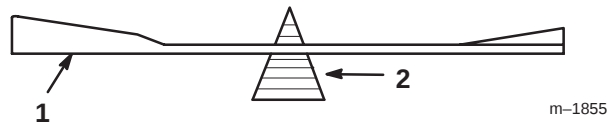
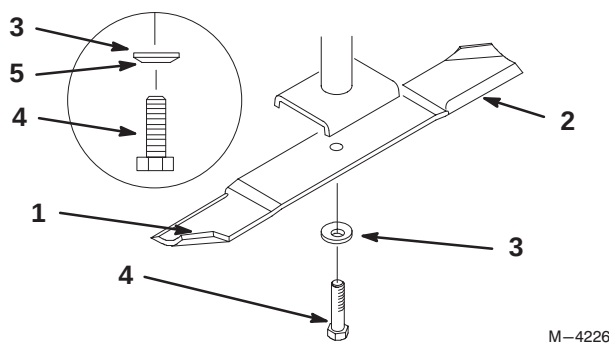

Figure 34
Figure 35
1. Hold the blade end using a rag or thickly-padded glove. Remove the blade bolt, spring disk and blade from the spindle shaft (Fig. 35).
2. Check the balance of the blade by putting it on a blade balancer (Fig. 34). If the blade stays in a horizontal position, the blade is balanced and can be used. If the blade is not balanced, file some metal off the end of the sail area only (Fig. 35). Repeat this procedure until the blade is balanced.
1. Install the blade onto the spindle shaft (Fig. 35).
2. Install the spring disk and blade bolt. The spring disk cone must be installed toward the bolt head. (Fig. 35). **Torque the blade bolt to 85–110 ft-lb (115–150 N•m).**